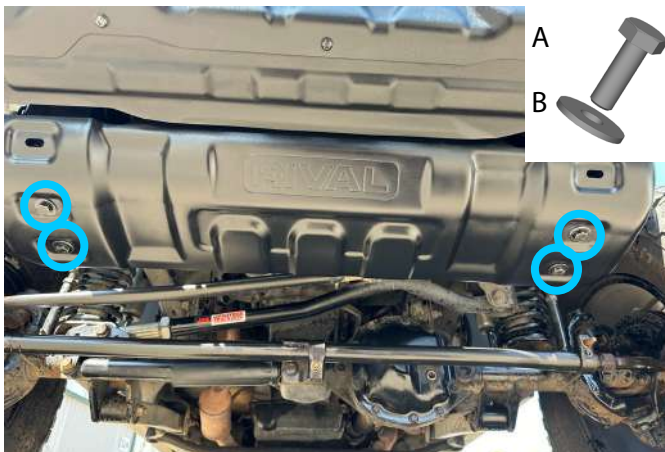

Fig. 3
4. Secure the lower bumper skid plate (item 1) using M10x30 bolts (item A) and M10 washers (item B), as shown in fig.3.